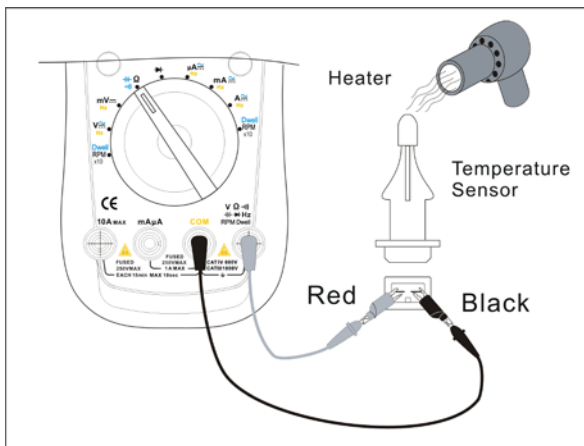

Figure 23
2. Temperature Sensor (see figure 23)